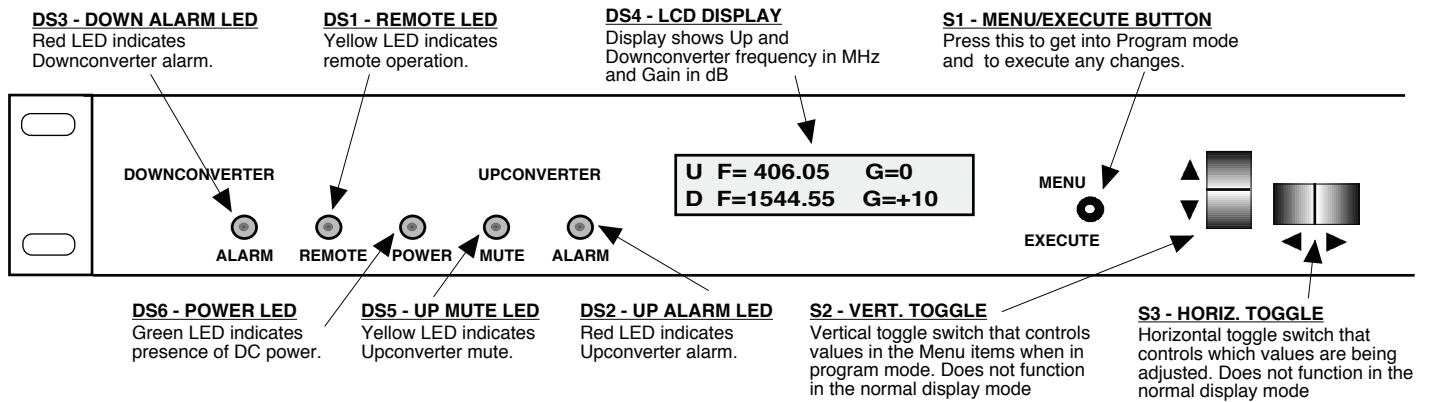

Figure 2.2 Model 2017-0415 Front Panel Controls and Indicators
- 4.) Be sure DS6 (green, DC Power) is on and DS2 & DS3 (red, Alarm) are off (Figure 2.2).
2.5.1 Functions - This section describes operation of the front panel controls. There are three operator switches, the LCD display and alarm indicator LEDs. All functions for the equipment are controlled by these components. The functions are (see Figure 2.2):
Alarm indications appear on the LEDs (see figure 2.2).